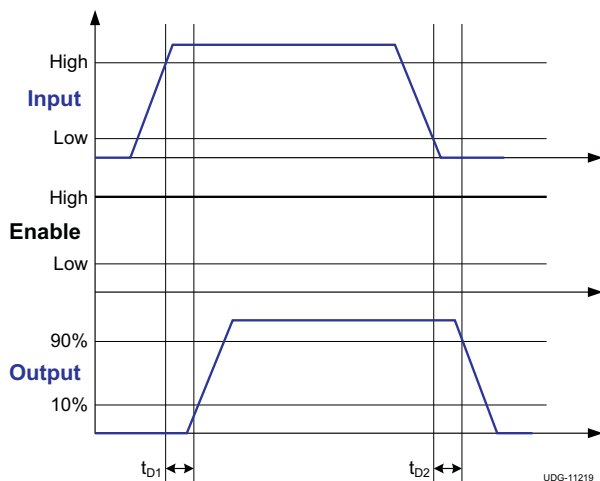

Figure 3. Non-Inverting Input Driver Operation
(1) See timing diagrams in Figure 1, Figure 2, Figure 3, and Figure 4